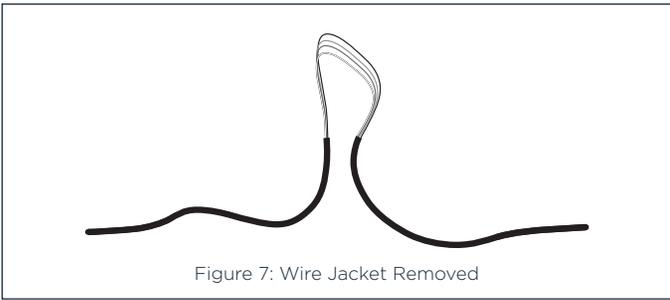
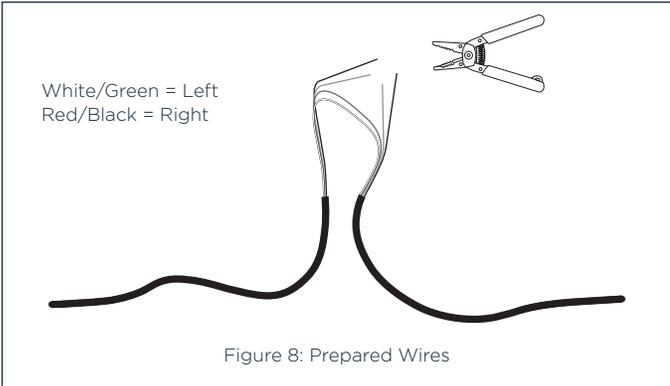

Figure 7: Wire Jacket Removed
Figure 8: Prepared Wires
2. Using a radial cable stripper (Figure 6), prepare the wires to be connected by stripping back the outer jacket to expose the four individual wires (Figure 7). Assuming the first speaker is designated as the Left channel, cut the Left (+) and Left (-) wires (typically white/green) (Figure 8). Combine the positive (+) wires from the amplifier, the speaker, and the line running to the next speaker. Using the included silicone filled wire nuts, twist the wires together ensuring that no copper is exposed. Repeat the same process for the negative (-) wires. The other two wires should be left intact, as they will be used at the next speaker.